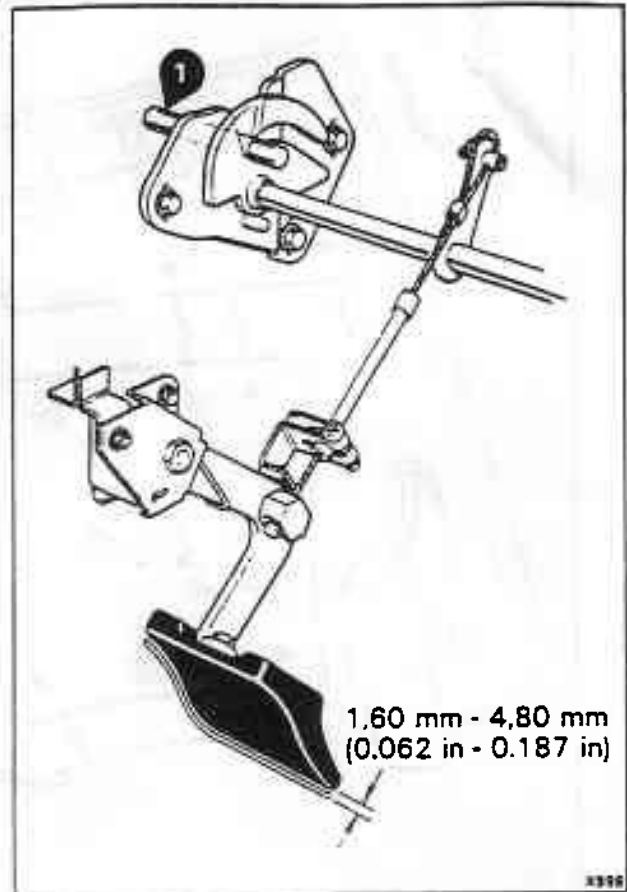

Fig. S12-4 Setting the bonnet catch operating mechanism
represent the bonnet closed position (see fig. S12-4, item 1). Move the countershaft to the closed position.
9. Tighten the socket headed grub screw (item 2) into the wire retainer. Ensure that there is between 1,6 mm and 4,8 mm (0,062 in and 0,187 in) of horizontal free movement in the operating handle. This movement is between the lever resting on its rubber stop and when it starts to open the cam (see fig. S12-4).